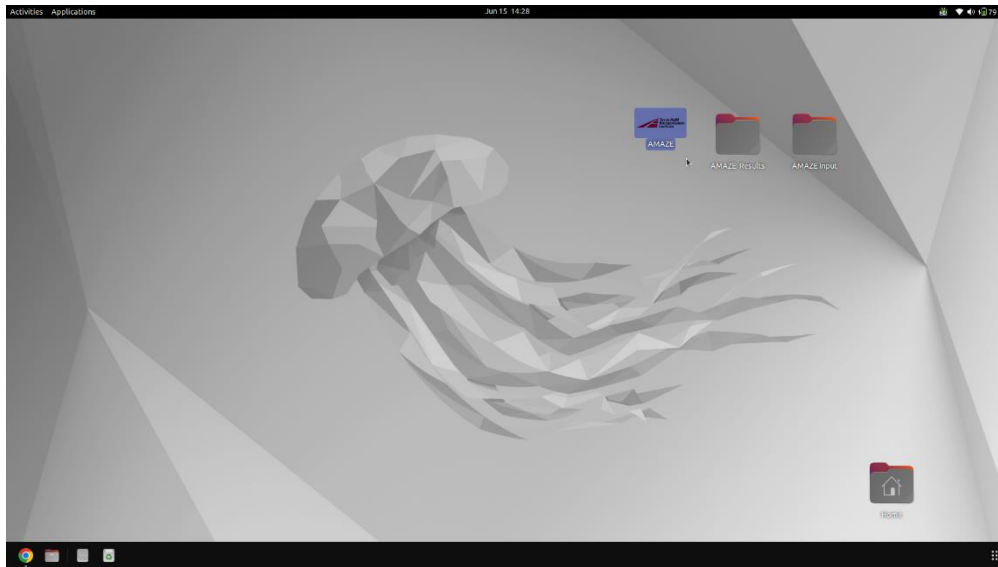
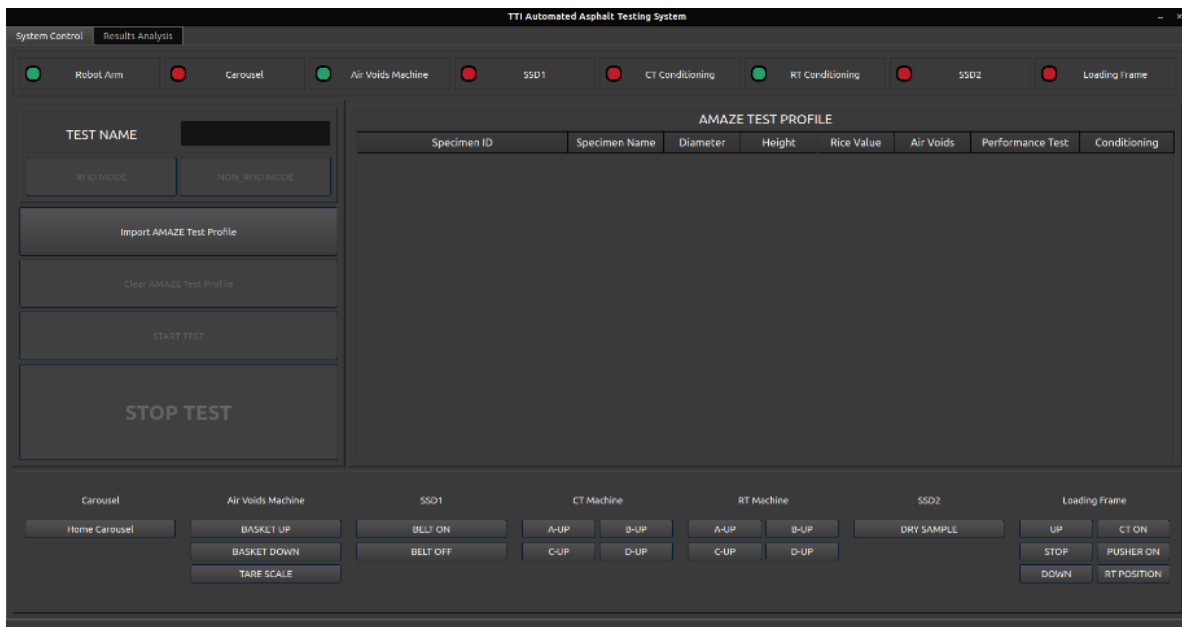

Figure 22. AMAZE Icon
Figure 23. AMAZE System Control Screen
1. **Launch the AMAZE Testing Software.** Double-click the AMAZE icon (Figure 22) located on the laptop desktop to launch the AMAZE testing software. Once launched, the screen shown in Figure 23 will be displayed. This GUI is instrumental in controlling individual machines, initiating and stopping tests, and displaying test results.